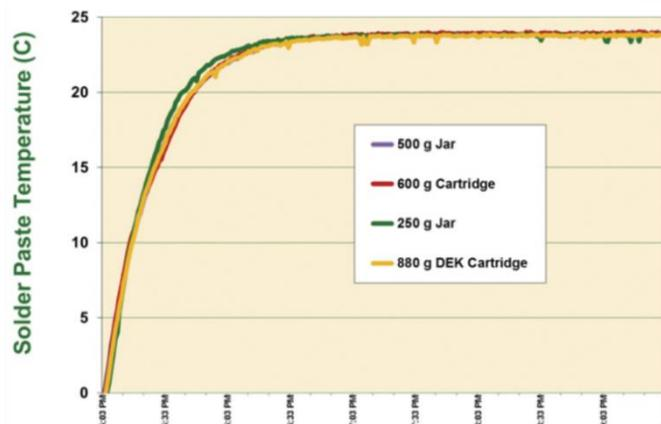

FIGURE 2. No clean SAC305 solder paste warming time.
- **Natural Temperature Adjustment:** Allow the solder paste to warm to ambient temperature naturally before use. Avoid placing the paste near heat sources or opening the container prematurely, as moisture condensation can degrade the paste's performance. (See Figure 2)
- **Controlled Production Environment:** Maintain the production area within an optimal temperature range of 72°F to 80°F and relative humidity (RH) of 40% to 50%. However, geography, seasonality and facility capabilities are often beyond the control of the engineer. Selecting a solder paste that performs well in select manufacturing conditions is a key to successful outcomes.